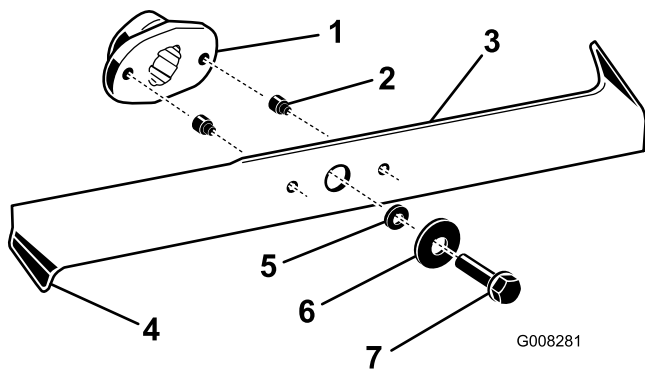

Figure 41
2. Inspect the cutting edges (Figure 41). If the edges are not sharp or have nicks, remove the blades and sharpen them; refer to Sharpening the Blades.
3. Inspect the blades, especially the bent edges (Figure 41). If you notice any wear or damage in this area, immediately install new blades.
4. If the shear pins are broken, replace them immediately (Figure 41).
3. Remove the bolts, washers, and blades (Figure 41). Wedge a block of wood between each blade and the mower to lock the blade when you are removing each bolt.
1. Install the blades, washers, and blade bolts (Figure 41).